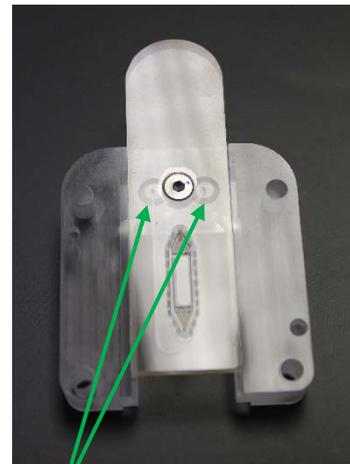

Figure 16: Visual of the circular seal contact areas from underneath, confirming a good connection of the gasket component to the manifold
- Tighten the bolt until the gasket component is held securely – the circular seal contact area can be viewed from the underside of the manifold and should be checked to confirm an visibly unbroken seal contact (Fig. 16)